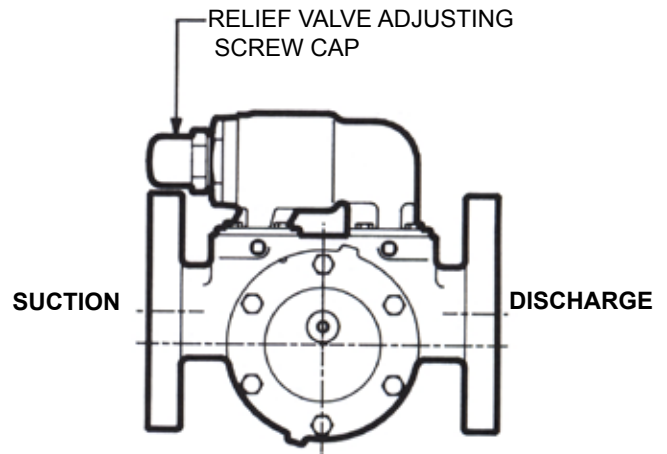

FIGURE 4
4. The relief valve adjusting screw cap must always point towards the suction side of the pump. **See Figure 4.** If the pump rotation is reversed, remove the pressure relief valve and turn end for end (see **PUMP ROTATION**, page 11 first for additional steps required for proper operation).